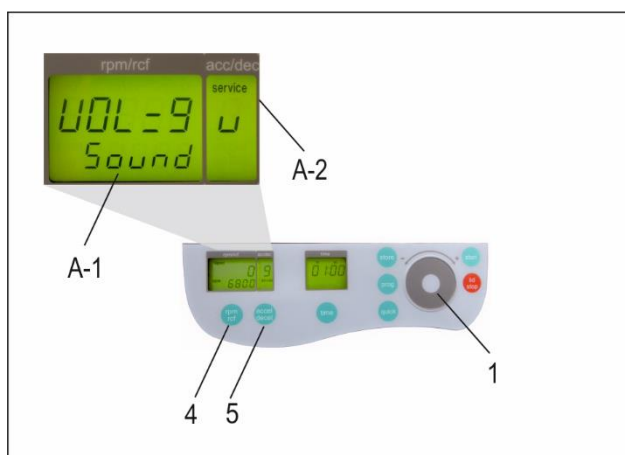

Figure 8
Proceed as illustrated, under point 3.2, to enter this program mode, press the key "accel/decel" (5). In the display, "accel/decel" (A-2), flashes the word, "service". Select the letter, "U" with the control field (1). As a result, appearing in the display, "rpm/rcf" (A-1), are the words, "Vol=0- 9/Sound". By pressing the key, "rpm/rcf" (4), the desired volume can be adjusted between 0 (low) and 9 (loud), with the adjustable knob (1), (see Figure 8).